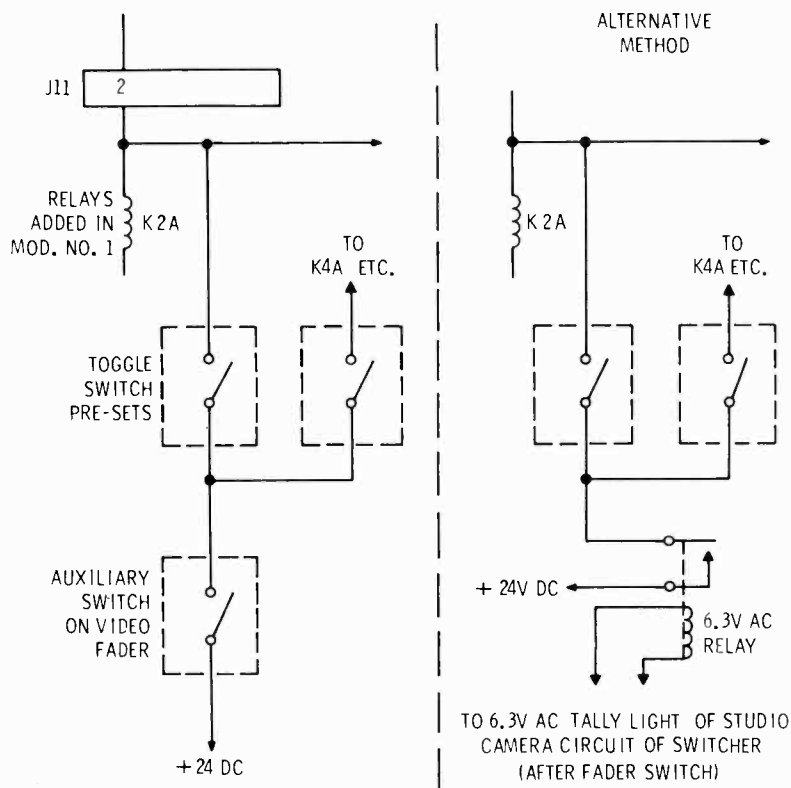

Fig. B-2. *TC-4A* modifications to add presets. The alternate method indicates changes possible when tally light voltage is present on the video fader contacts.
2. Adding Microphone Presets (Fig. B-2)